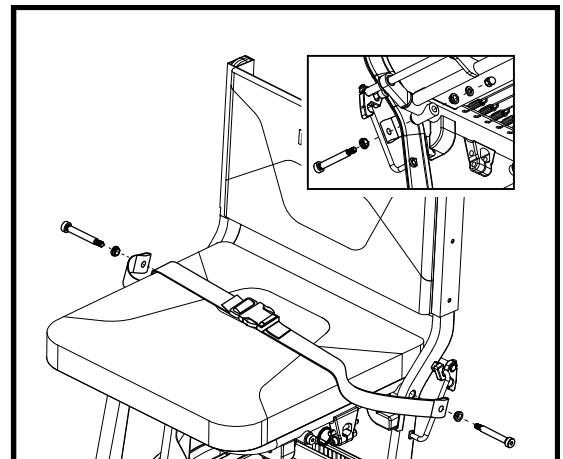

Figure 16. Positioning Belt Bolts
1. Remove shoulder bolts, castle nuts, and washers holding the seat base. See figure 16.
2. Hook seat belts on the shoulder bolt housing. See figure 16.